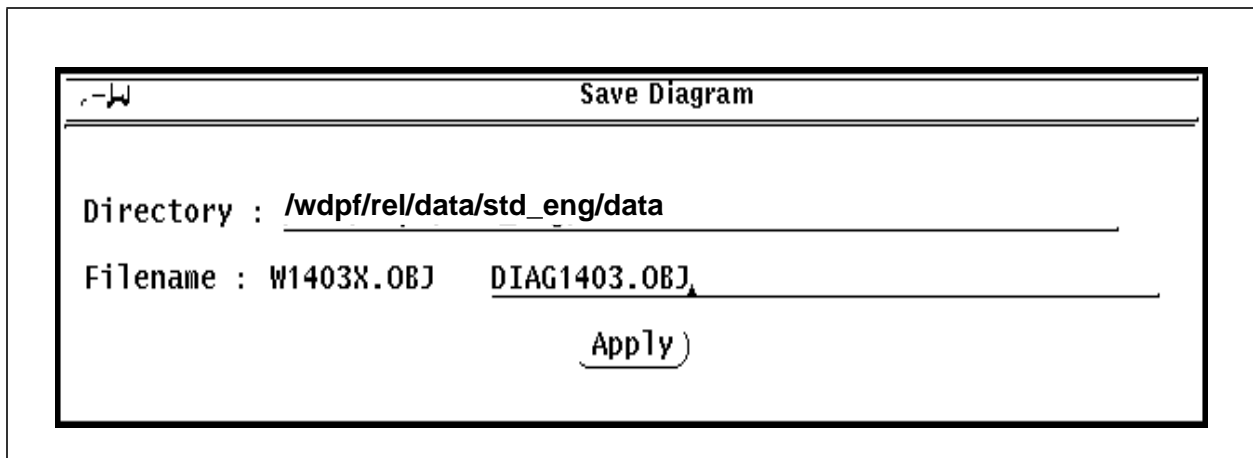

Figure 3-8. Save Diagram Window
1. Select the **Save Diagram** button to extract and save a diagram from the previously saved memory files. When the user selects the **Save Diagram** button, a rename window will be displayed as shown in Figure 3-8.